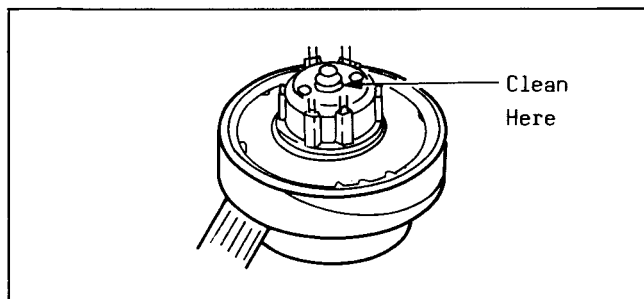

Fig. M4
- (1) Before reinstalling a new unit, clean the D.D. Cylinder Shaft and the surface that engages with the Upper Cylinder, with a soft cloth dampened with Freon TF in Fig. M4.